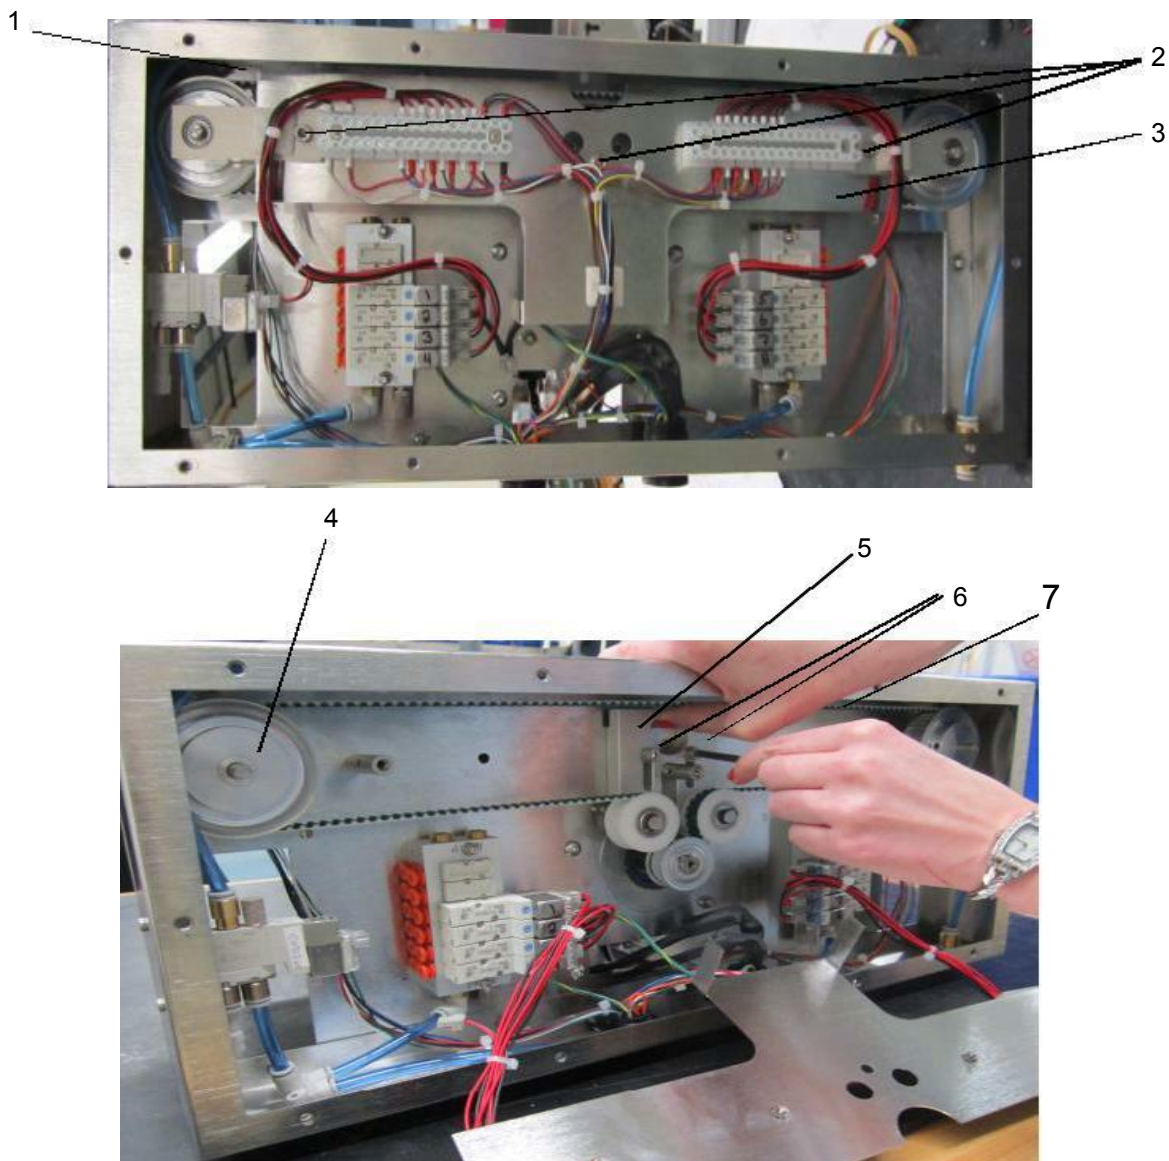

Figure 5.3 Belt Disassembly / Assembly
To inspect the motor belt (Figure 5.3):
To check and adjust the motor belt tension (Figure 5.3):
6. Proceed to step 10 if belt (7) tension is correct.
7. Loosen two screws (6) securing belt tensioner (5) to Actuator Module (1).
8. Place your hand as shown in Figure 5.3 and move belt tensioner (5) upward until you feel tension.
9. Tighten two screw (6). Return to step 5.
10. Position belt guard (3) on Actuator Module (1) and secure with three screws (2).
11. Position bottom cover on Actuator Module (1) and secure with four screws and four screws with feet.
12. Connect the three cables and air line to the rear of Actuator Module (1).